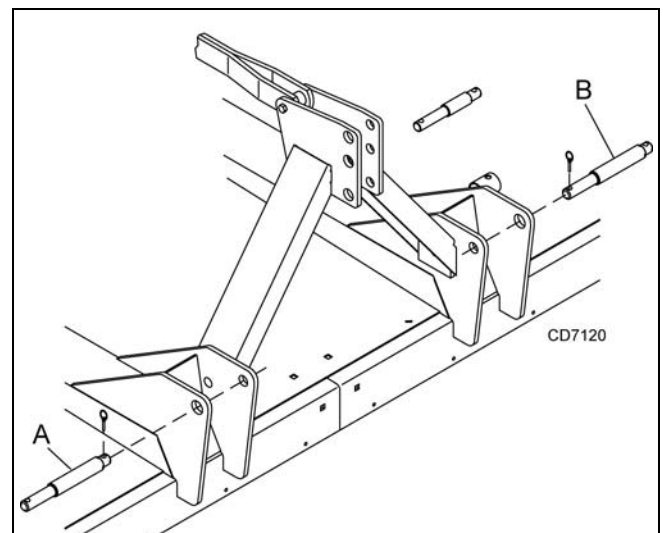

Figure 2. 3-Point Mounting Positions
- Insert lower hitch pins to Position B, Figure 2, through mast plates and tractor lower lift arms.
2. Insert lower hitch pins to Position A, Figure 2, through mast plates and tractor lower lift arms.
1. Position lower hitch pins to Position A, Figure 2.